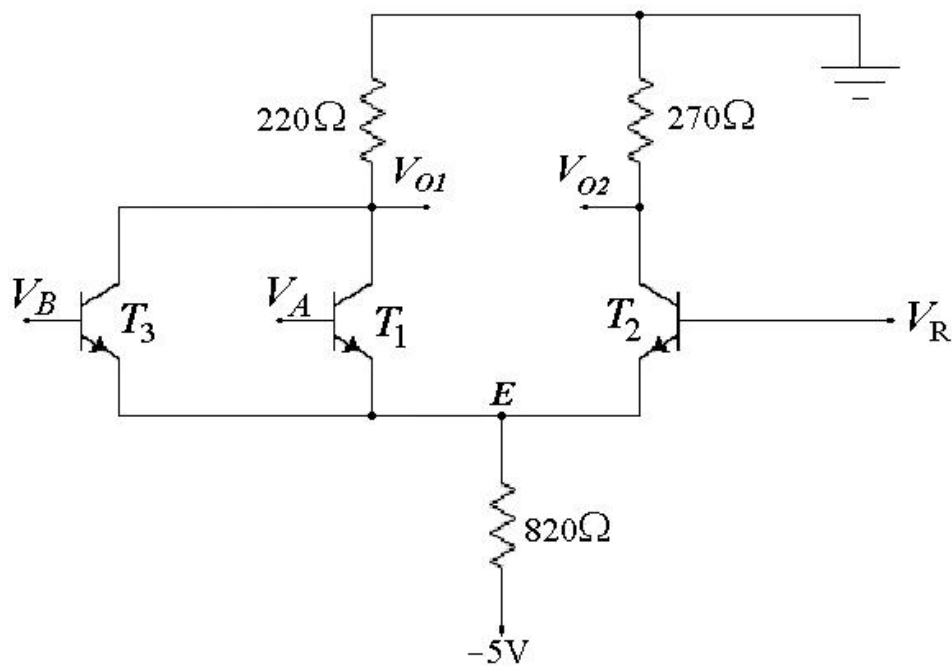

Figure 2 : Simplified ECL gate.
- 3- **Construct** the simplified ECL gate excluding the output stages as shown in Figure 2.
- 4- **Let** $V(1) = -0.75$ V and $V(0) = -1.75$ V. For different combinations of voltages, **measure** the two output voltages and **record** their values in Table I. Also, **measure** the voltage at point E in the circuit shown in Figure 2.
1. Analyze the circuit of Fig.2
2. Simulate circuit of Fig. 2, using PSPICE.